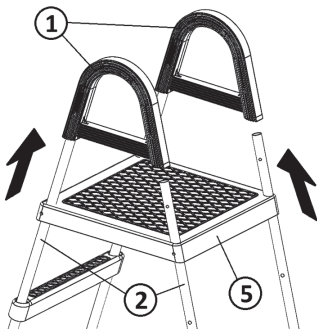

fig. 7
Take the ladder brace (3) and position it next to the curved base of the support (4) facing towards the inside of the ladder. Align the holes in the reinforcement (3) with the holes in the bases (4). After centring the holes, join the components with the bolts (10) and box nuts (13). (Fig. 7)